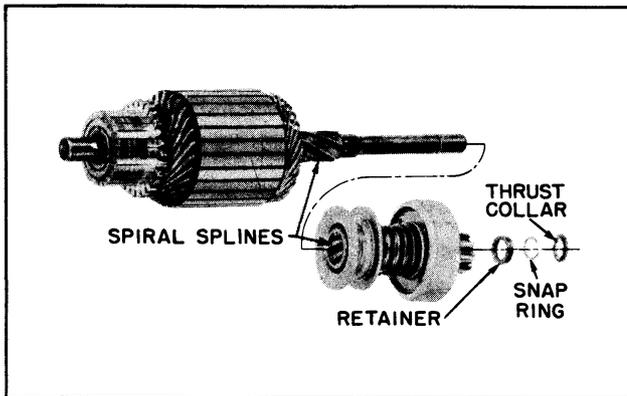

Fig. 13-32 Overrun Clutch Installation
- b. Slide clutch assembly onto armature shaft with pinion outward. (See Fig. 13-32)